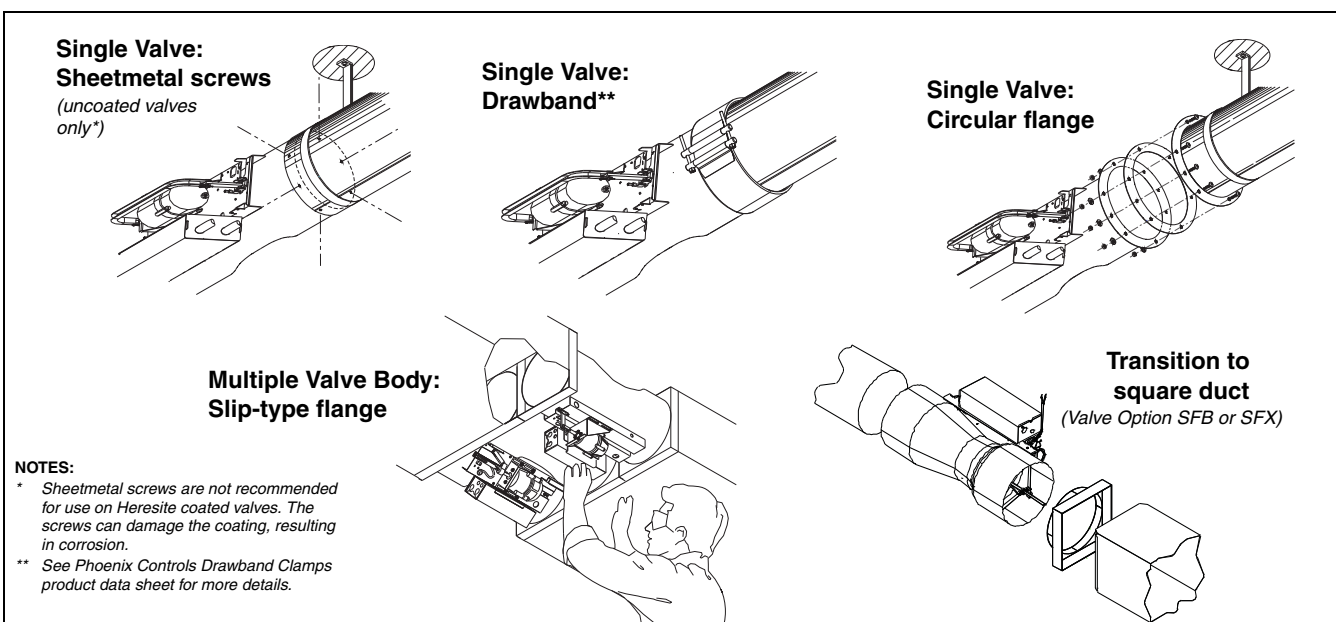

Fig. 5 Valve installation methods.
10. Follow the appropriate installation diagram (see Fig. 5). NOTE: Screws, fasteners, duct sealant, hanger stocks, companion flanges, and gaskets are not provided by Phoenix Controls.